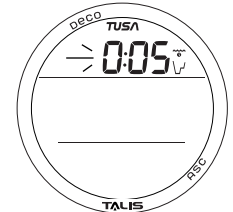

Fig. 35 - SET DTR ALARM
**SET DTR ALARM**, information includes (Fig. 35):